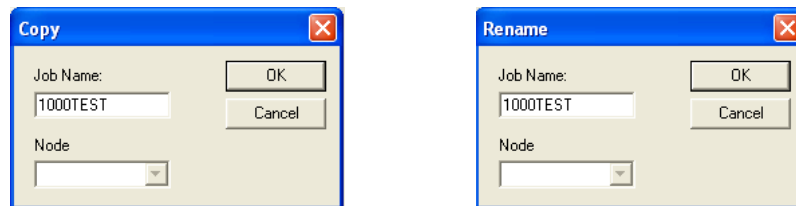

Figure 3-9. Save As Dialogs
1. Click the **File** menu and choose **Save As**. A cascade menu appears to the right, containing the **Copy** and **Rename** choices. Click on the appropriate choice, using the following guidelines. A dialog similar to the one shown in Figure 3-9 appears.